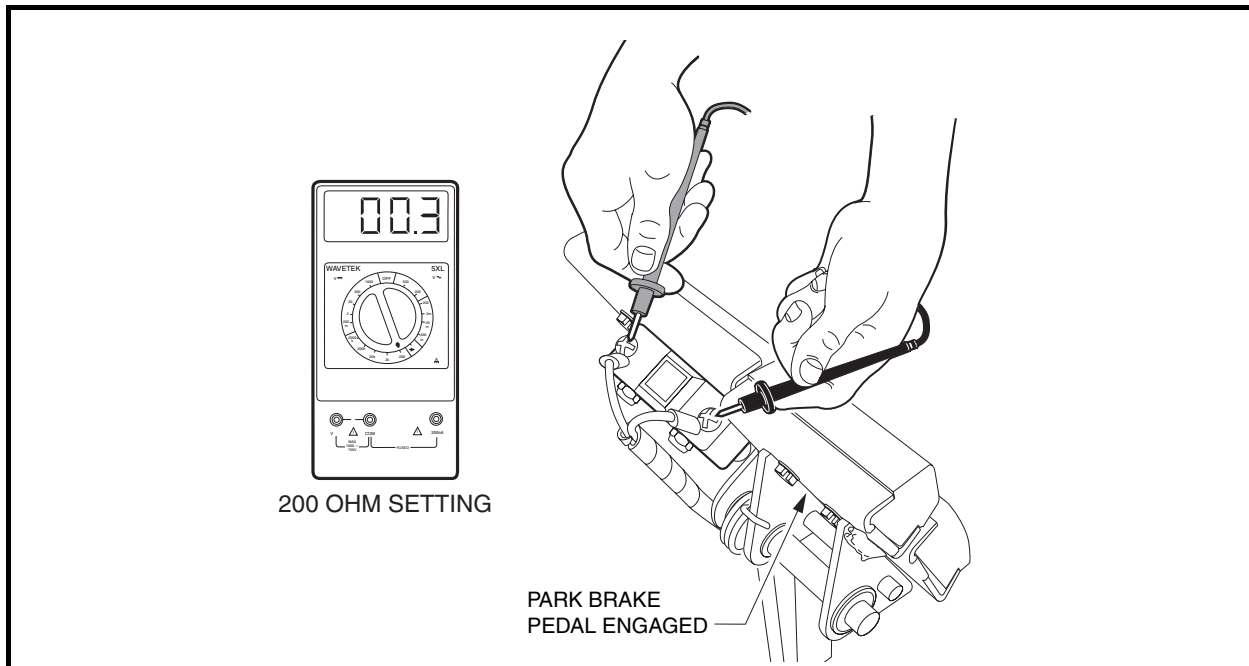

Figure 11-44 Park Brake Pedal Limit Switch Test – Park Brake Engaged
5. With the park brake pedal engaged and locked, the multimeter should indicate continuity (**Figure 11-44, Page 11-42**).